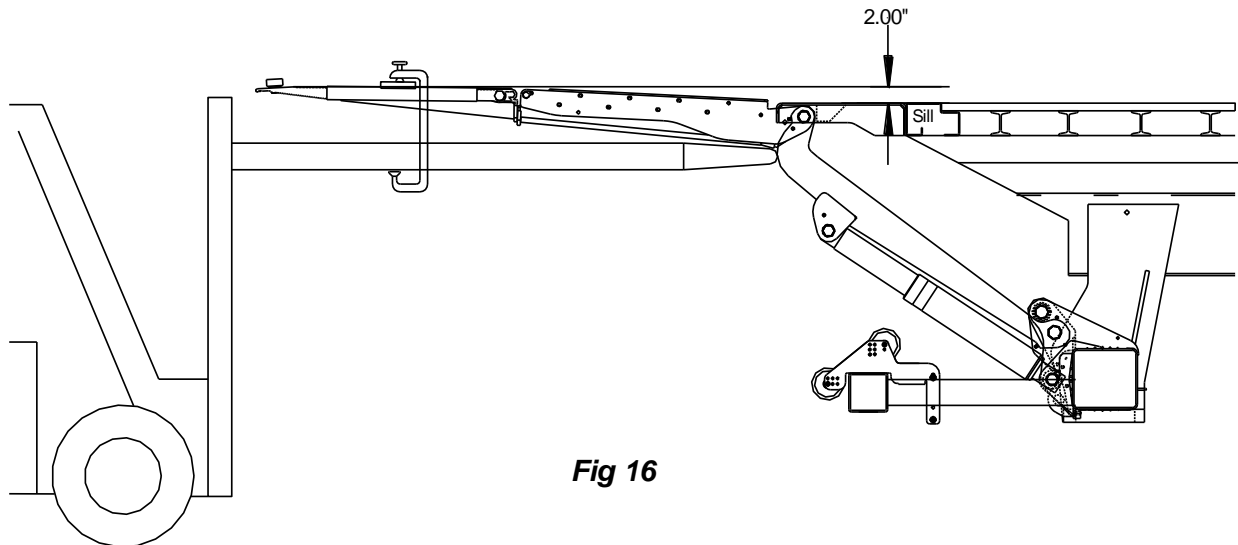
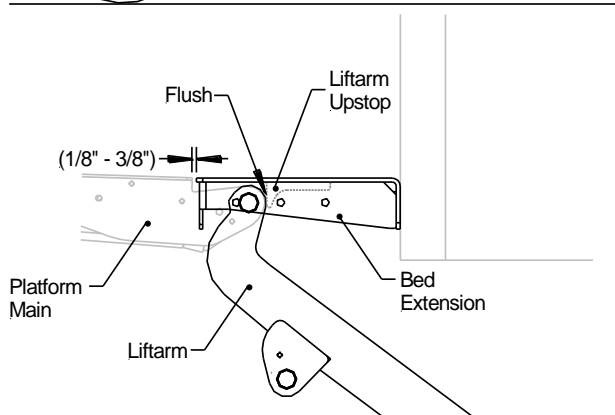

Fig 16
Fig.17
1. Liftgate Preparation: Remove the galvanize finish from the pre-welded mount plates. Grind the three (3) indicated surfaces to bare metal. Surface 1 and 3 grinds should be 8".
2. **Hoist Platform:** Unfold platform manually and clamp forklift forks, overhead crane or equivalent to platform. Make sure the platform is secured. Always maintain the mount tube centered to the vehicles body. Make sure the tip of the platform is pitched up 2" and the platform is centered to the bed extension, **Fig.16**. Verify that both liftarms are flush with both upstops on the underside of the bed extension, **Fig.17**. **Important: Verify the bolts and nuts are installed on each swing fixture, Fig.18.**